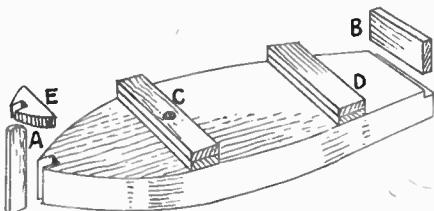
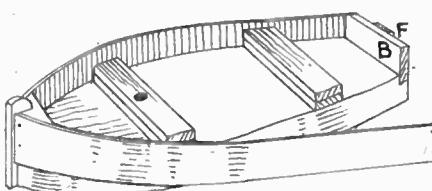

Fig. 2—Showing details of construction
Fig. 3—How sides are fitted
A general clean up should now be made, and the sides and hull gone over with fine glasspaper. To strengthen the fixing between the sides and the bow upright glue in the shaped piece (E), as seen in Fig. 2. The actual size of the piece is marked out direct from the model. See the actual piece fixed in place, Fig. 3.